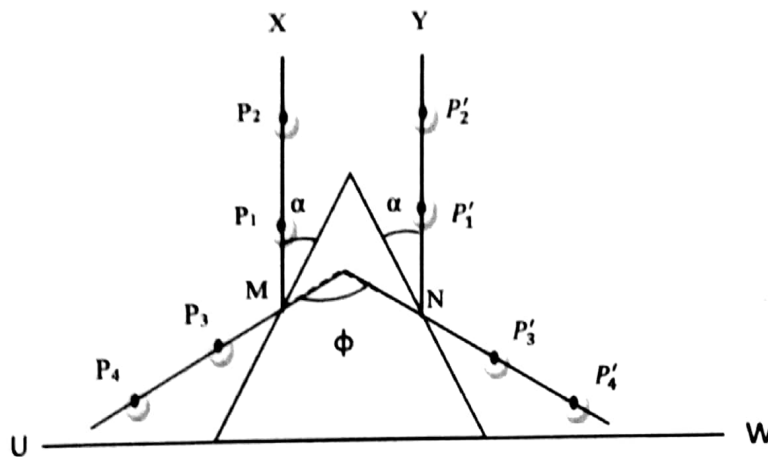

Fig. 2
- Remove the prism and mark points M and N mid-way the sides of the outline as shown in Fig. 2 above.
- Draw a line XM making an angle $\alpha = 30^\circ$ with the side of the outline as shown in Fig. 2
- Draw a line through P'_3 and P'_4 to meet the outline at N, produce it to meet the line through P_3 , P_4 and M produced as shown in Fig.2.